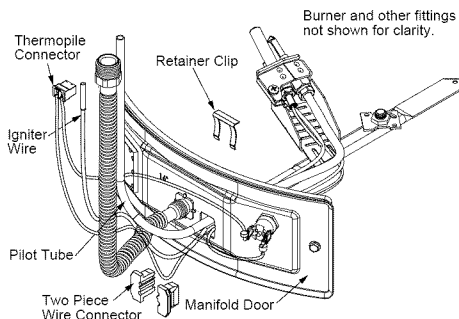

FIGURE 35.
2. Remove the retainer clip from the back of the two piece wire connector (using a flat blade screw driver), then remove the two piece wire connector from the manifold door (Figure 35).
3. Remove the burner by removing the two (2) screws located beneath it. Keep the screws for future use.
4. Remove the screw that secures the pilot shield and pilot assembly to the pilot bracket (Figure 35). Keep the screw for future use.
6. Pull the pilot tube from the pilot assembly (Figure 35).
8. Push the new pilot assembly connectors through the hole in the manifold door where the two piece wire connector will be seated (See Figure 35). Reconnect the pilot tube and tighten the nut securing it to the pilot assembly. IMPORTANT: Keep the pilot orifice in the pilot when making the connection. Do not operate the water heater without the pilot orifice installed.